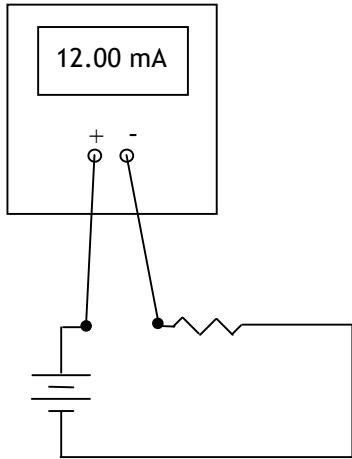

Figure 4: To make a measurement of the current drawn by a circuit, the meter must be placed in series with the circuit.
In contrast to making voltage measurements, for which the multimeter was connected in parallel with the circuit, current measurements require the meter to be placed in series with the circuit. This is diagrammed below in Figure 4.
Notice in Figure 4 that the portion of the circuit between the two probes has been removed. The idea is to make the current flow through the meter so it can be measured, and then return it to the circuit. For DC current measurements, the placement of the probes must follow the same rules as for DC voltage measurement. For AC current measurements the placement of the probes does not matter.
To measure the (DC) current drawn by the bulb first set the multimeter to measure DC current by pressing the appropriate button. Next, connect the circuit to the multimeter which must be made in series. As in the voltage measurement, a BNC cable with a clip to BNC adaptor on one end and BNC to dual banana adaptor on the other can be used to connect the bulb to the multimeter. Instead of placing the clips on either side of the bulb they must be placed on the same side, but without any wire from the circuit in between them. In written form, this description sounds awkward; however if you look at Fig. 4, you should be able to interpret its meaning unambiguously. The ground plug on the dual banana connector should be connected to the same socket as for measuring voltage; however, the other plug should be plugged into the socket labeled "I," for current.